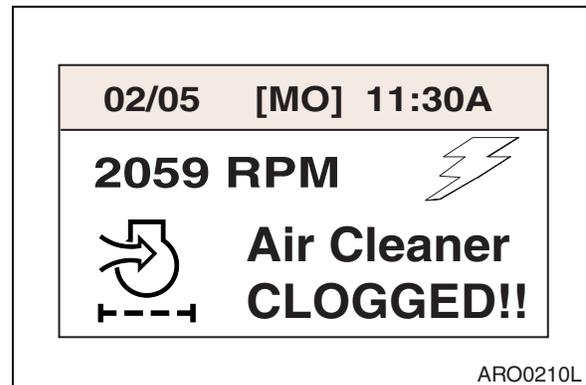
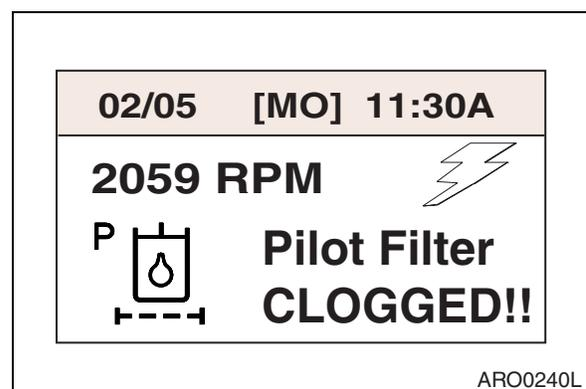

Figure 43
Figure 45
**NOTE:** See Figure 43 thru Figure 45.